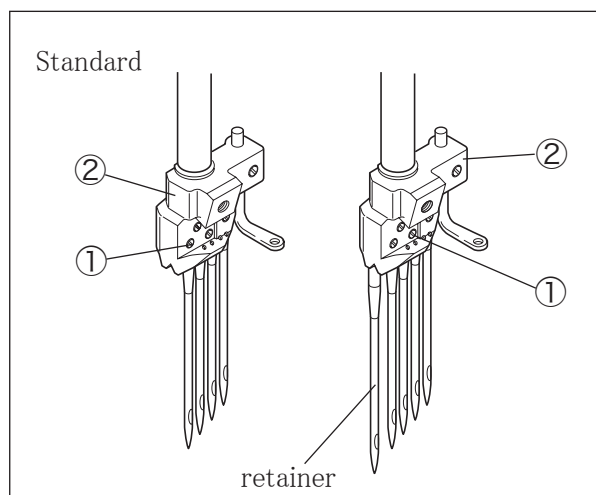
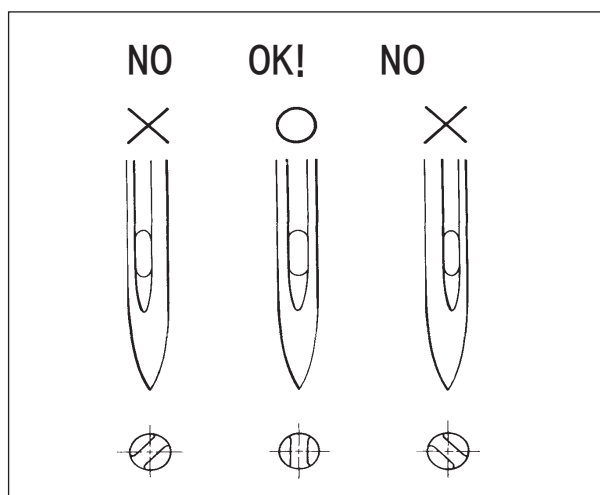

Fig. 5-4
Fig. 5-5
- (1) Loosen the screws ① with a screwdriver. (Fig. 5-4)
- (2) Remove an old needle with a pair of tweezers.
- (3) Insert a new needle into the needle clamp ② as far as it will go with facing its scarf to the right back. (Figs. 5-5 and 5-6)
- (4) Tighten the screws ① with a screwdriver.
- ① Retainer is not used under the standard specifications.